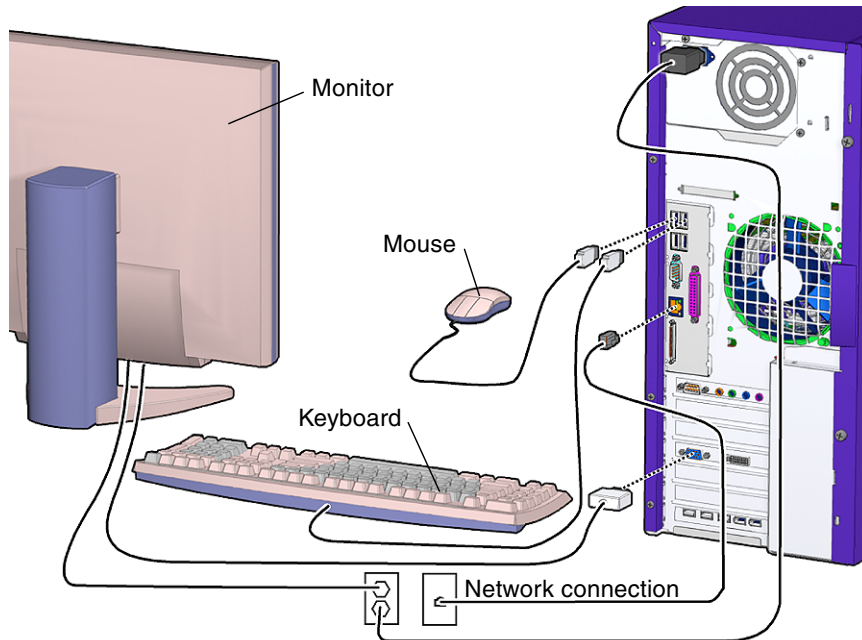

FIGURE 15-8 Reconnecting the Keyboard, Mouse, Monitor, and Network
1. Reconnect the keyboard, mouse, monitor, and network connections (FIGURE 15-8).